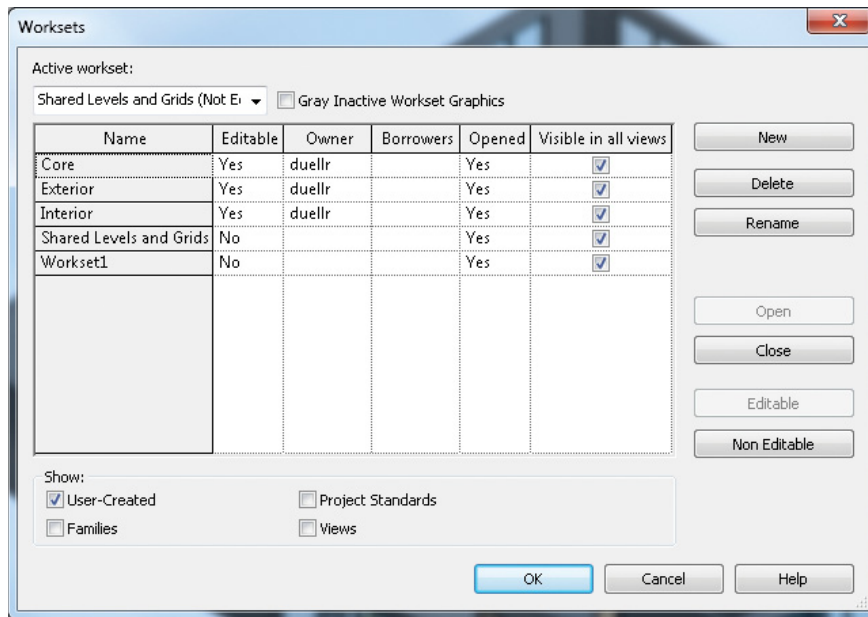

FIGURE 10.7 Creating additional worksets
2. Click New, and then create three additional worksets called Core, Exterior, and Interior, as shown in Figure 10.7. Keep in mind that worksets are not layers, and not much granularity is required. Basically, worksets should be used as collections of objects based on how you want them to be organized in the project.